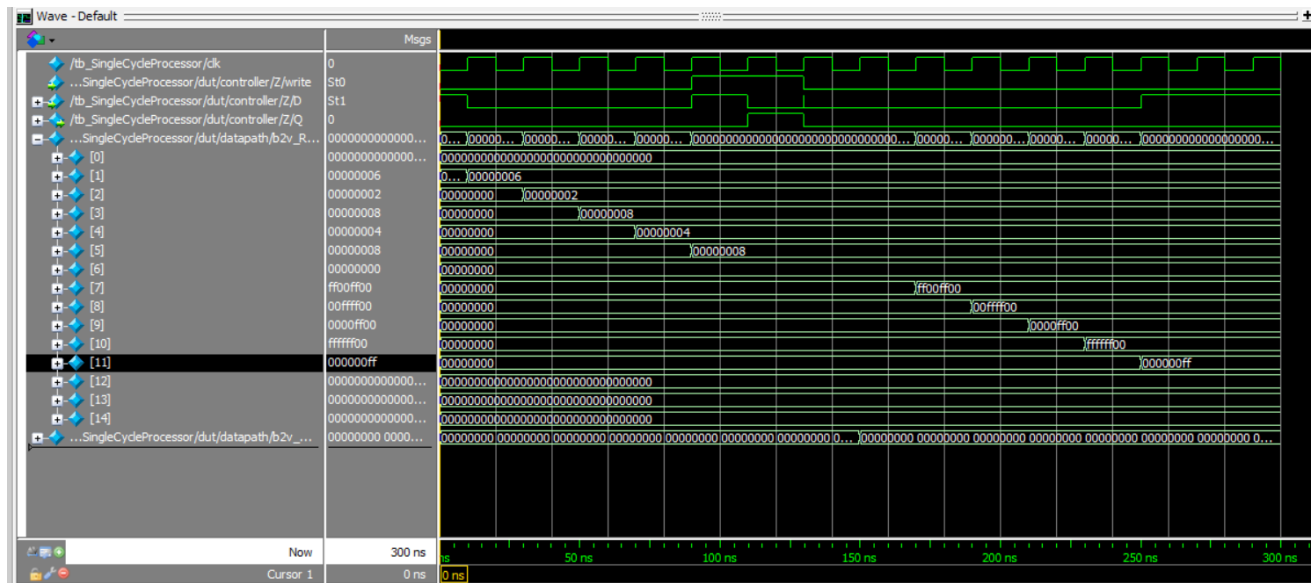

Figure 5. Simulation showing register values and z flag.
8. Clock cycle: **STR R5,[R5,#8]** → memory location 16. is 08 as you can see from Figure 5.
9. Clock cycle: **LDR R7,[R6,#24]** → **R7 = FF00FF00** since memory location 27.26.25.24 is FF00FF00 as you can see from Figure 5.
10. Clock cycle: **LDR R8,[R6,#28]** → **R8 = 00FFFF00** since memory location 27.26.25.24 is FF00FF00 as you can see from Figure 5.